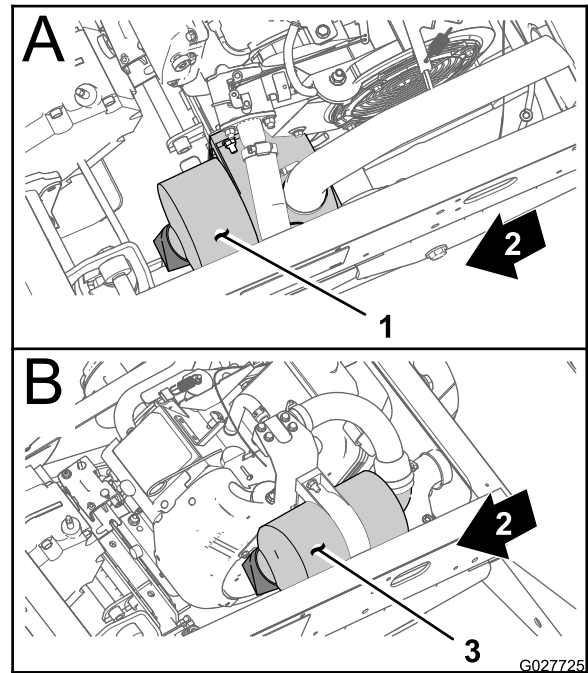
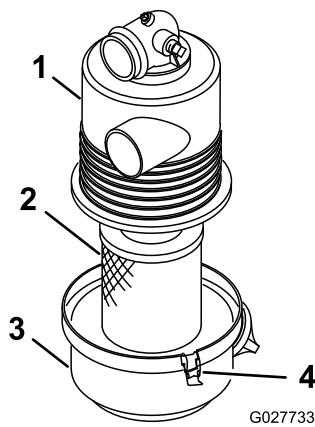

Figure 35
Figure 36
2. Check the air cleaner body for damage which could possibly cause an air leak. Ensure the cover is sealing around the air cleaner body (Figure 35 and Figure 36).
3. Insert the air-filter element into air-filter housing (Figure 36).
4. Align the air-cleaner cover with the air-cleaner housing (Figure 36).
5. Secure the cover to the housing with the latches (Figure 36).
3. Release the latches securing the air-filter cover to the air-filter housing (Figure 36).
4. Separate the air-filter cover from the air-filter housing, and clean the inside of the cover (Figure 36).